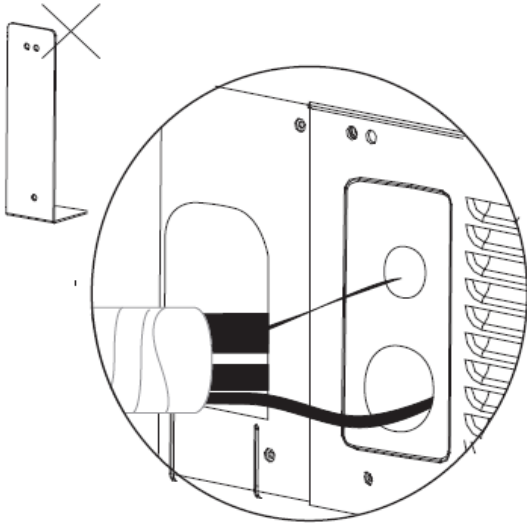

Fig. 8 — Piping and Control Wiring Connections
Step 3 — Connect Refrigerant Piping and Wiring — Refrigerant pipe connections are made on the side of the unit. Remove the L-shaped metal plate, and route piping through the exposed opening. Route power and control wiring through the two separate, adjacent knockouts. See Fig. 8 for details.
Indoor units are connected to the outdoor units using branch piping. See Fig. 8 and 9. Table 3 lists main pipe sizes. Branch pipe sizing depends on the size of the indoor unit selected, see Table 4. Table 5 lists the maximum number of indoor units and connected capacity range per 38VMA outdoor unit.